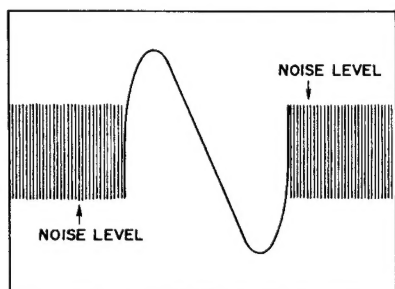

Fig. 10
- 4) Adjust the upper core of Front End IF Coil (see Figs. 22, 24) to obtain maximum wave height value of S^{*} Curve in Fig. 10, and adjust the lower core to obtain maximum noise level.